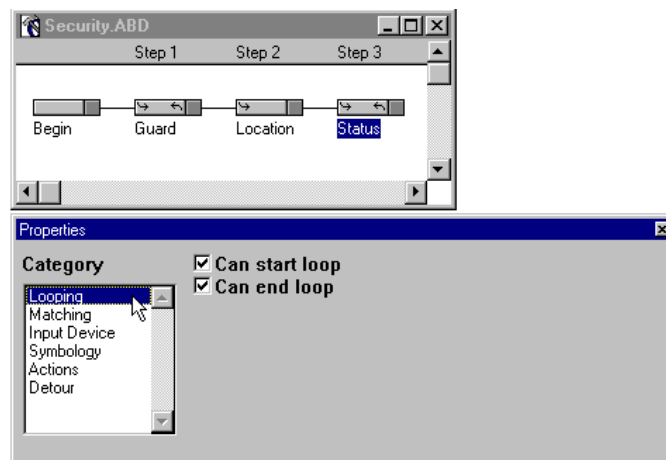

Figure 3-46 “Status” Handler - Looping Property
40. Select **Looping** from the **Properties** window **Category** list (Figure 3-46). Since we only want a Status entry if a Location has been entered, we will not allow the “Status” Handler to begin a loop; this will require that a Location entry be made before a Status entry can be made.